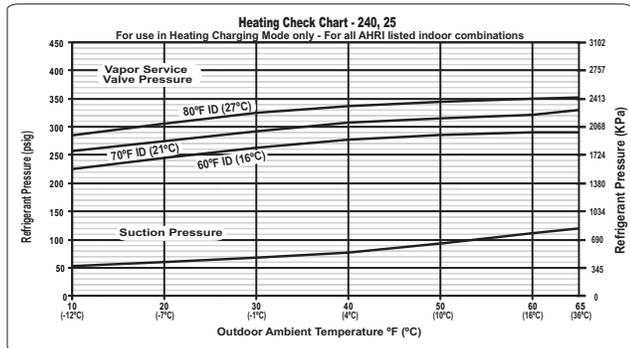

Fig. 27 - Heating Pressure Check Chart 288BNV0240, 25
**Heating Check Chart Procedure (See Fig.27 - 31)
running in stage 5 with appropriate outdoor fan speed and indoor airflow. Upon completion of a countdown period for system stabilization, check refrigerant pressures for the appropriate ambient temperatures shown in Fig. 27, 29 or 31 based the OD unit size.